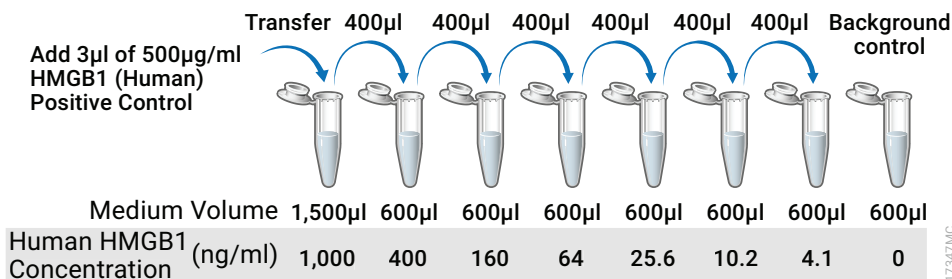

Figure 3. HMGB1 (Human) Positive Control dilution series. This dilution series is only a recommendation.
3. Prepare an initial concentration of 1,000ng/ml human HMGB1 by diluting HMGB1 (Human) Positive Control (500µg/ml) 1:500 in prewarmed cell culture medium (typically standard tissue culture medium + 10% FBS for human cells). For example, prepare 1,500µl of 1,000ng/ml human HMGB1 by adding 3µl of the HMGB1 (Human) Positive Control stock to 1,497µl of culture medium (see Figure 3).
Human HMGB1 dilution series is not linear	The 2.5-fold serial dilution series of the positive control listed in the Plate Map in Section 3 and described in the Protocols in Figure 3 is listed as a recommendation. There may be slight variability based on the type of medium, the type of luminometer used, user-to-user variability, etc. Use the recommended positive control dilution series as a starting point and then reoptimize if necessary.